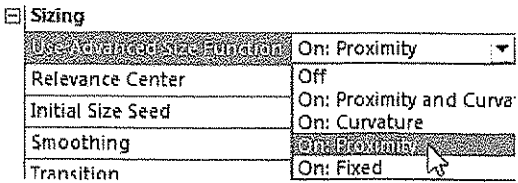

Figure 9-43 Selecting the *On: Proximity* option from the *Use Advanced Size Function* drop-down list
- 10. Select the **On: Proximity** option from the **Use Advanced Size Function** drop-down list, as shown in Figure 9-43; the **Details of “Mesh”** window is modified.